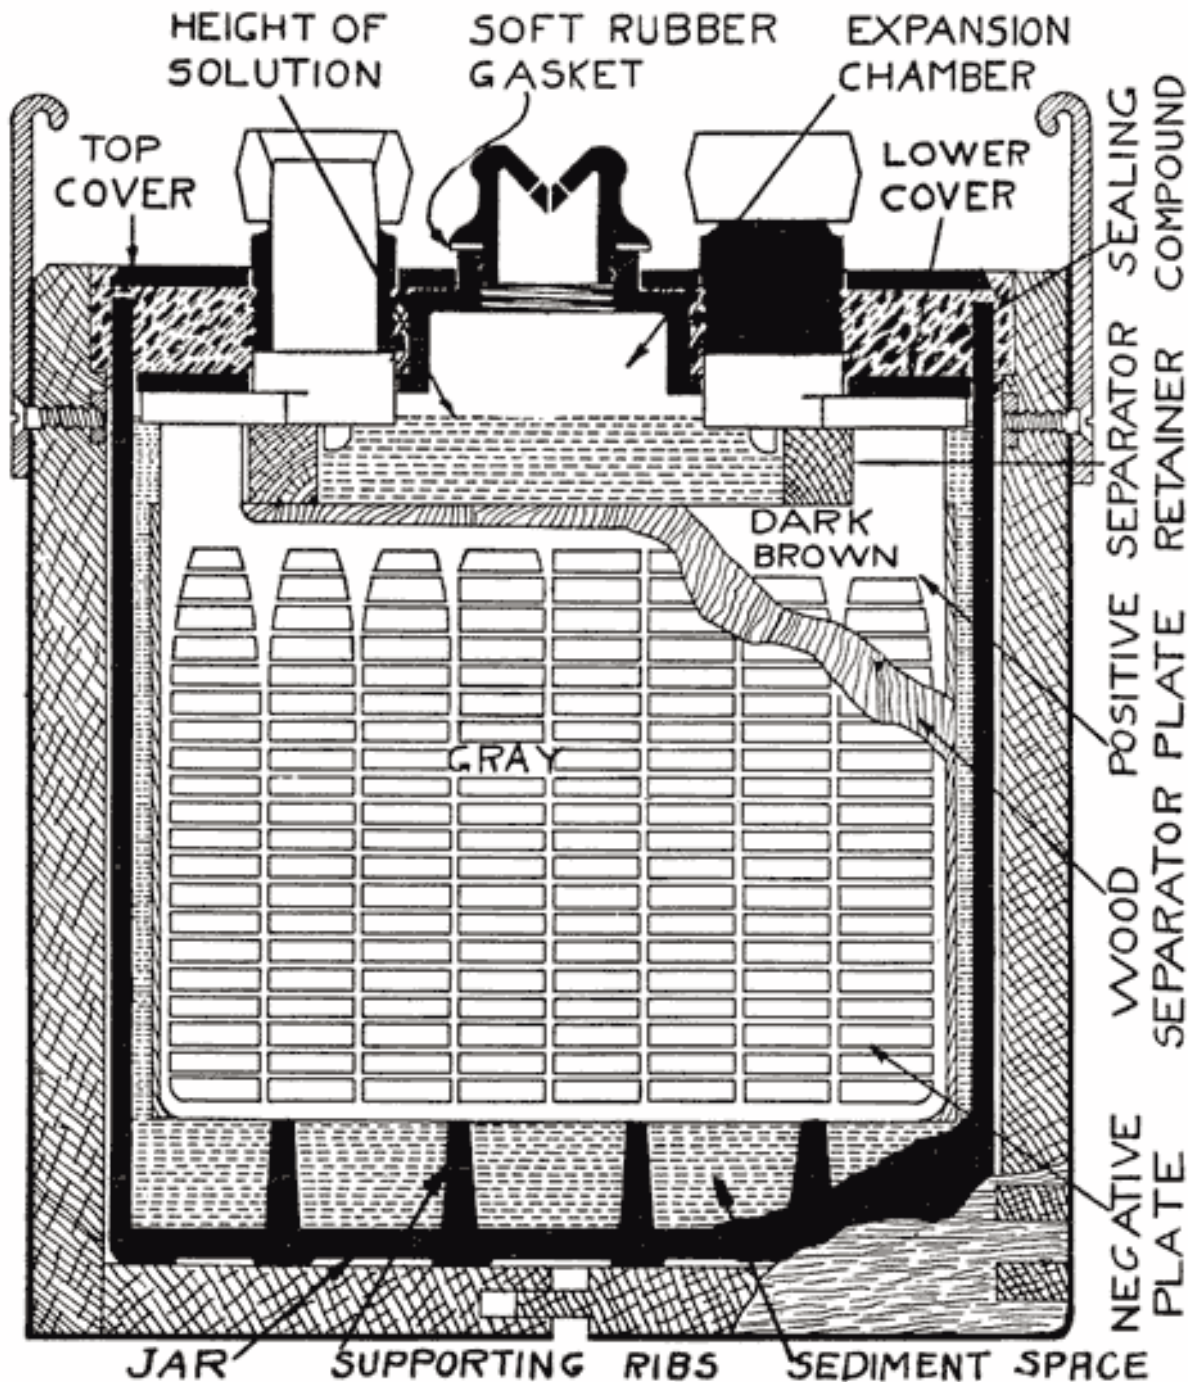

Fig. 10. Cross-Section of Gould Double Cover Battery
compound is used. This compound is poured on top of the lower cover to seal the battery, the top cover serving to cover up the compound and brace the posts. Fig. 10 illustrates this construction.
joint between the cover and the post have a hard rubber bushing shrunk over the post. This construction is used in Gould batteries, as shown in Fig. 10, and -in the old Willard double cover batteries. The rubber bushing is grooved horizontally to increase the length of the sealing surface.
**Filling Tube or Vent Tube Construction.** Quite a number of designs have been developed in the construction of the filling or vent tube. In double covers, the tube is sometimes a separate part which is screwed into the lower cover. In other batteries using double covers, the tube is an integral part of the cover, as shown in Fig. 10. In all single covers, the tube is moulded integral with the cover.